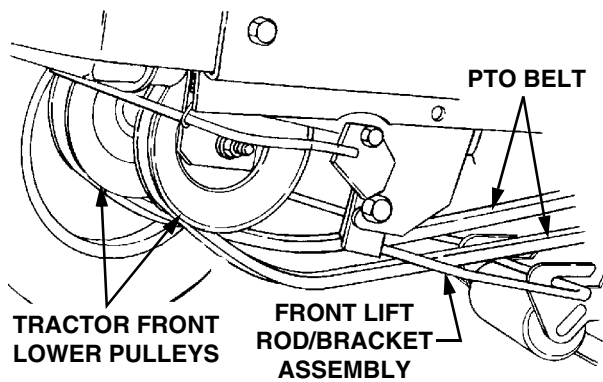

Figure 43
8. Pass the PTO belt downward, inside the tractor frame, until the belt is below the two tractor front lower pulleys and pull the belt clear of the tractor (Refer to Figure 43).